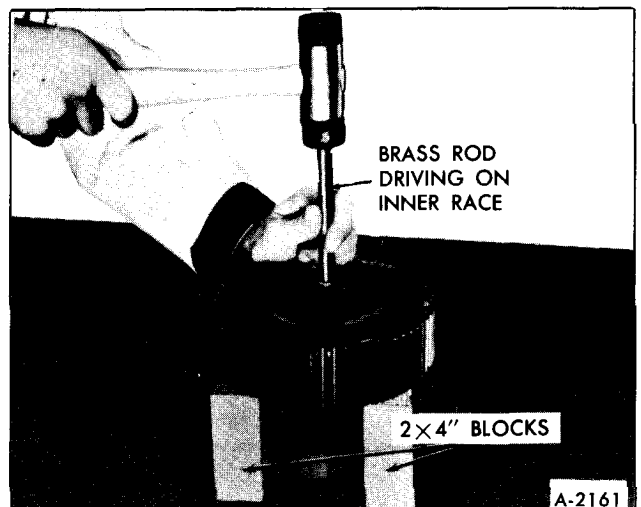

Figure 44—Removing Sprocket Bearing
c. With a hammer and brass rod, drive the inner race, alternately through each of the access openings, until the bearing assembly is removed from the sprocket hub, Figure 44.